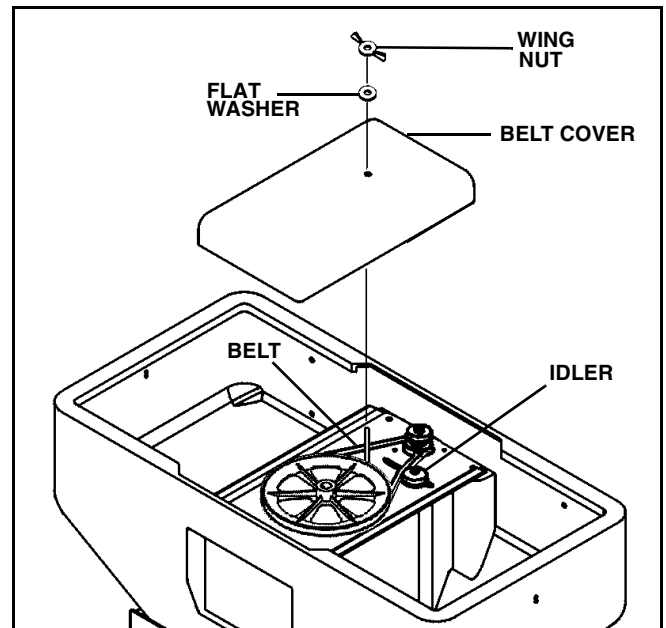

Figure 1-1
5. Loosen wing nut and washer securing belt cover to crossbrace. (See Figure 1-1)